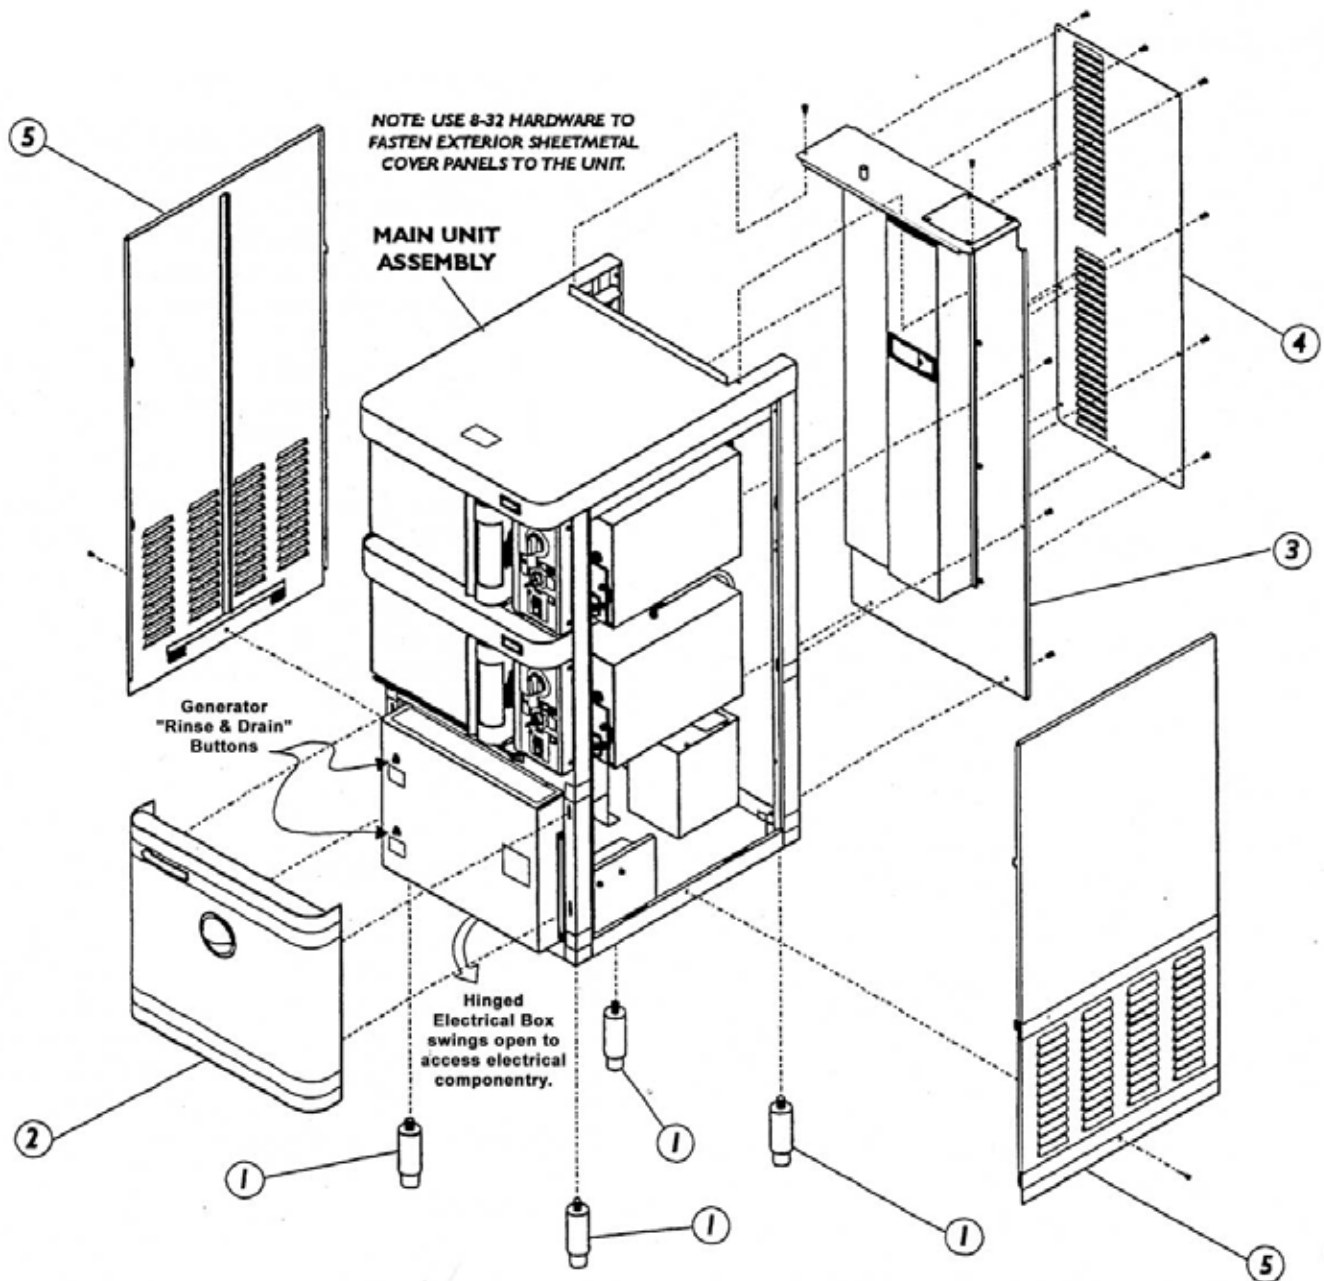

FIGURE 6.1 EXTERIOR STEEL-METAL COVER PANEL AND FASTENERS
4. Remove the 11 screws which hold the louvered vent access hatch onto the rear panel of the unit. (*Refer to Figure 6.1 on page 6.2.*)